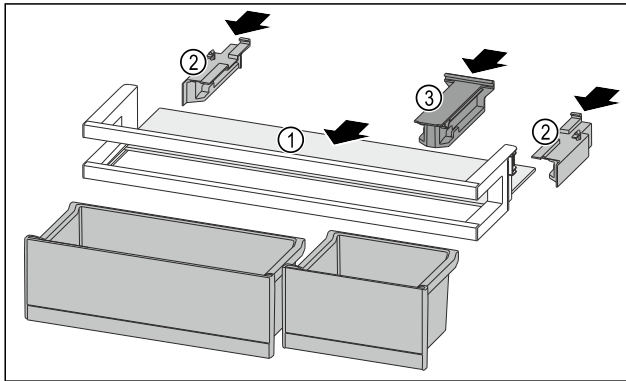

Fig. 134
- Push the shelf Fig. 134 (1) into the side recesses.
- Insert the side parts Fig. 134 (2).
- Insert the holding part Fig. 134 (3).